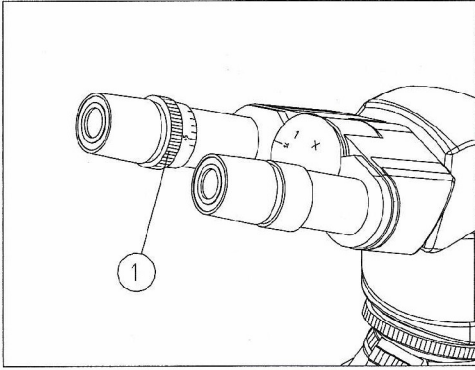

Fig.23
3.3.4 Adjusting the Diopter (Fig.23)